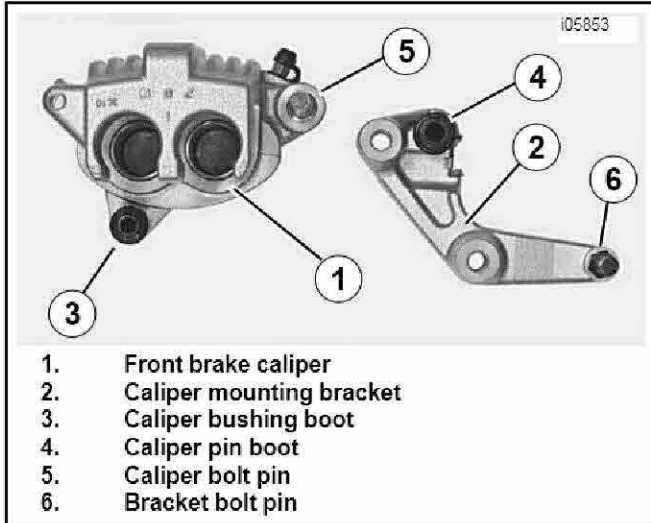

Figure 11. Front Brake Master Cylinder
1. See Figure 11. Apply approximately 0.4 g of G40M brake grease (Part No. 42820-04) inside caliper bushing boot (3) and caliper pin boot (4).